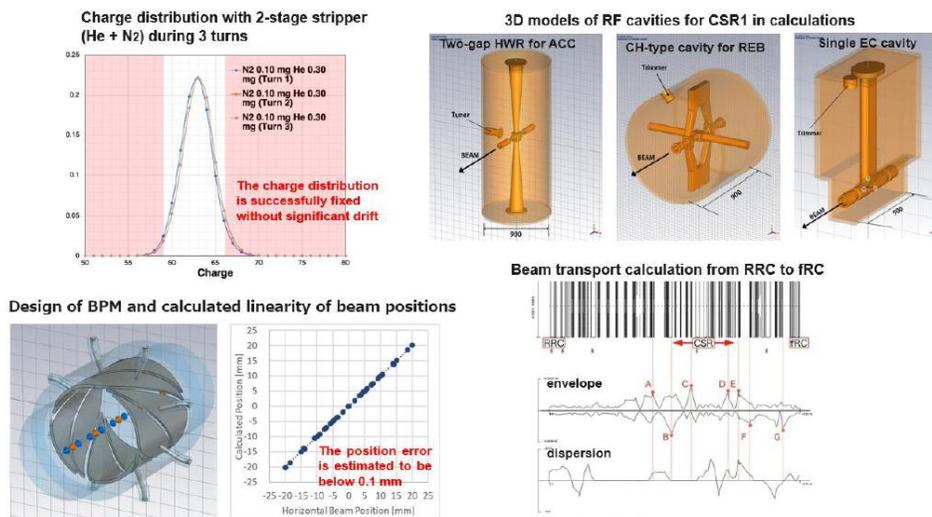

Figure 3.2.8. Component design works for CSR1.
Other necessary tasks have been almost completed, including calculation of interactions in the stripper and 2-stage stripper design, RF cavities design and optimization, beam position monitor (BPM) design calculations [3.2.12], design of beam transport (BT) systems before and after CSR1, and their beam-matching methods (Fig. 3.2.8).